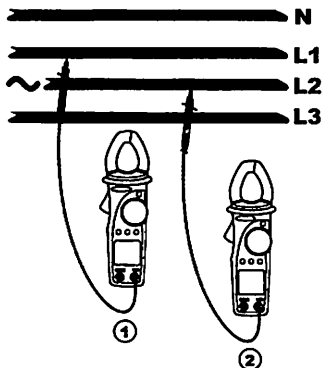
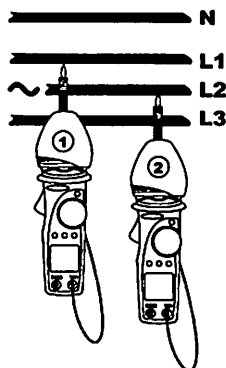

Fig.14: Phase rotation detection
Fig.15: Phase rotation detection with rubber cup
3. Connect the red terminal to the L1 phase conductor (see Fig.14, 1st measurement). If necessary, please use the rubber test lead holster and insert the red test lead (see Fig.15, 1st measurement).
8. Connect the test lead to the L2 phase conductor (see Fig.14 or Fig.15, 2nd measurement).
8. Connect the test lead to the second cable (see Fig.14 or Fig.15, 2nd measurement).